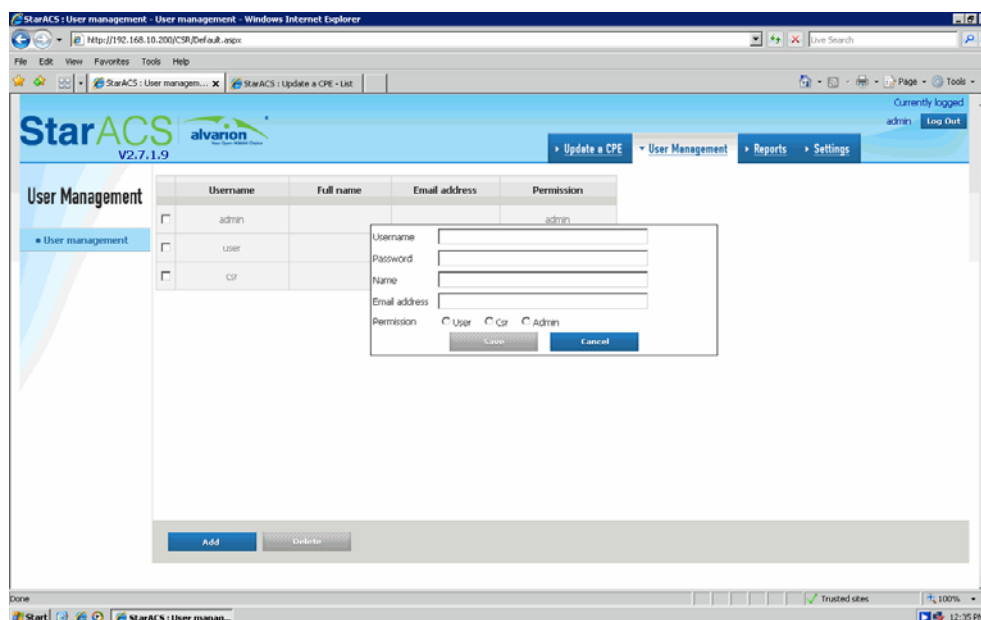

Figure 74: User Management Window
- From the User Management tab, click Add and enter the parameters for the user (Figure 74).